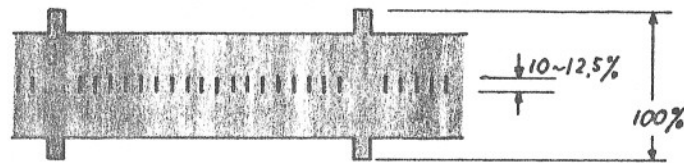

Figure-8
- c) Adjust VR901 to obtain the modulated waveform as shown in Figure-8